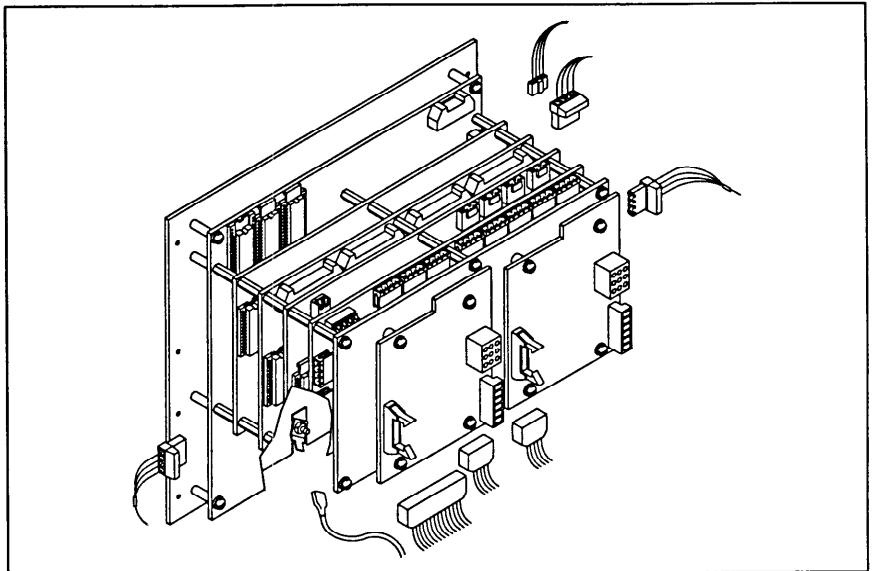

Figure 2. Disconnecting controller's external cables and connectors
5. Disconnect all cable connectors from the top, bottom, and side edges of the individual boards of the controller assembly. See Figure 2, and note that for clarity not all connectors to be removed are shown.
5. Reconnect all cables and connectors, Figure 2.